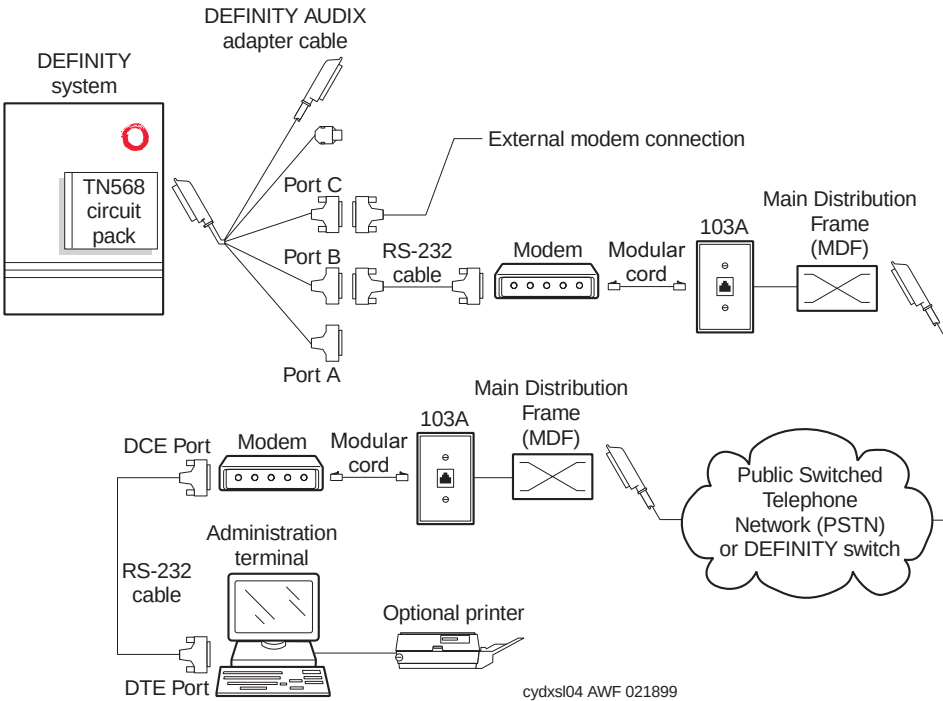

Figure 2-8. Installing an Additional Administration Terminal via Modem
Refer to Figure 2-8 when performing this task.
- a. Connect the modem to Definity Audix and to a telephone jack as shown in Figure 2-8.
- d. Connect the equipment as shown in Figure 2-8.